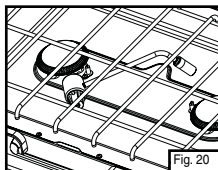

Fig. 20
- For storage or transport, the regulator may be located below the pot support. (Fig. 20)